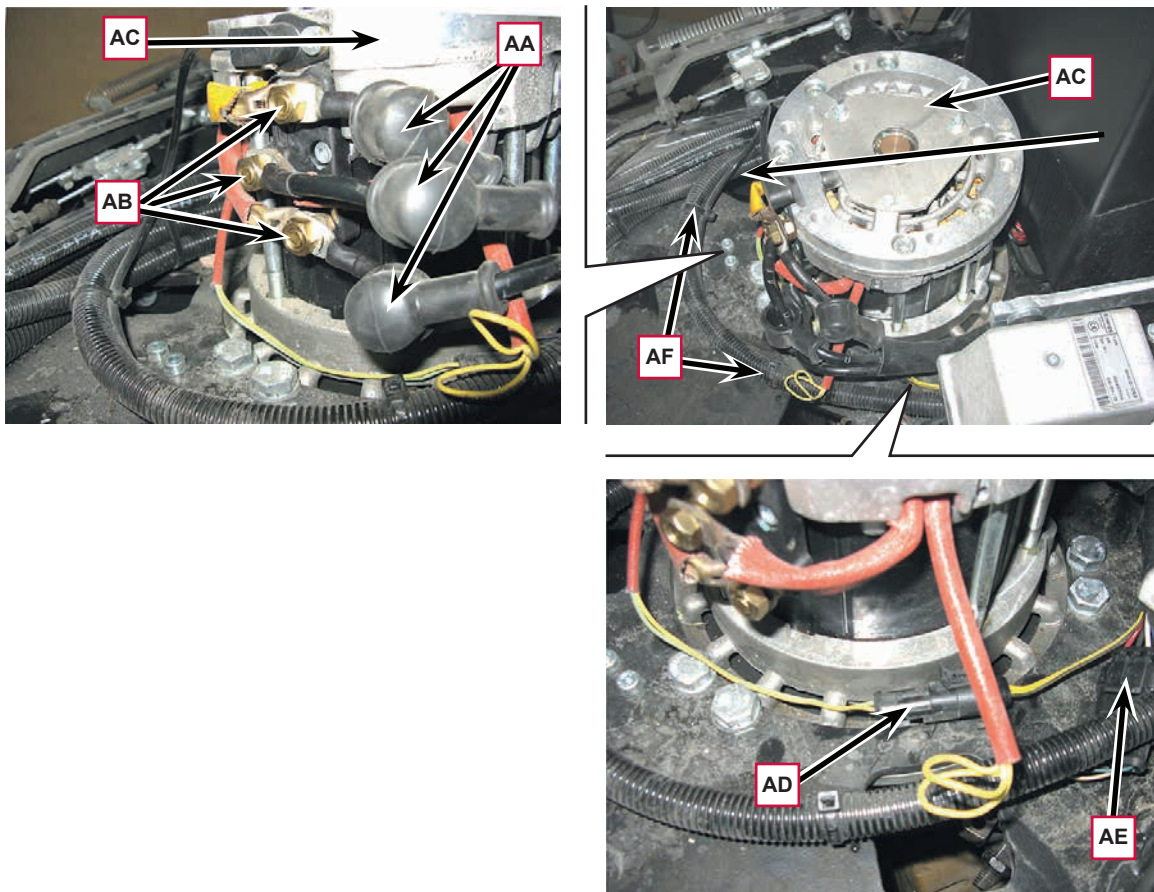

Figure 11
20. Free the three caps (AA, Figure 11) and disconnect the three electrical connections (AB) of the driving wheel (AC), after unscrewing the corresponding nuts.
21. Disconnect the driving wheel temperature electrical connection (AD).
22. Disconnect the encoder electrical connection (AE).
23. Cut the fastening clamps (AF).